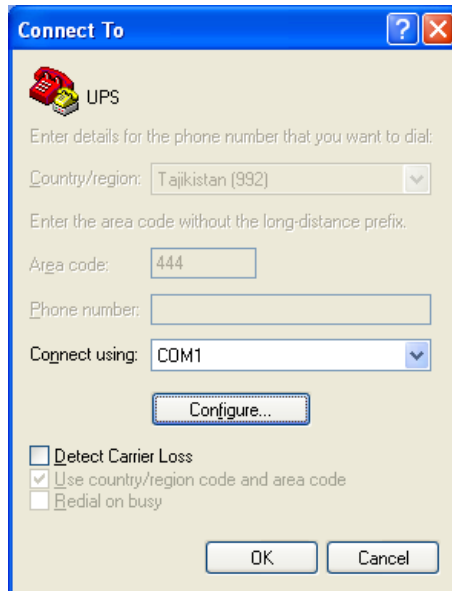

Figure 14: Connect To Screen
Step 3: It will pop up "**Connect To**" screen as shown in Figure 14. Select the COM port from the drop down menu and then click OK.